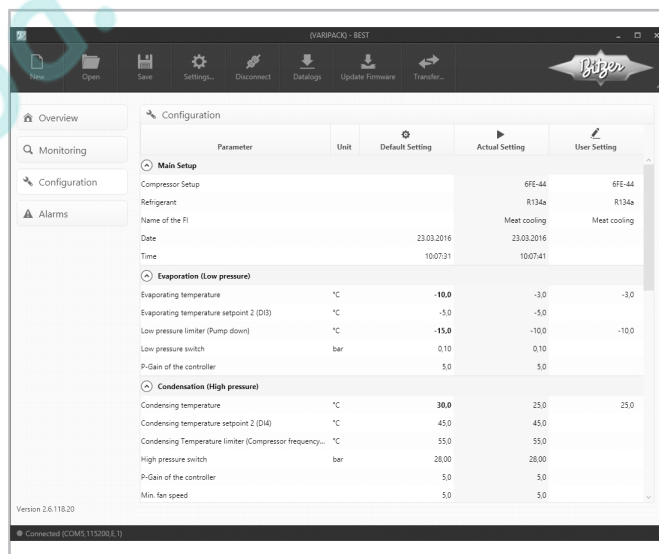

Fig. 22: VARIPACK configuration "Pressure control"
- Capacity control of the compressor depending on the evaporation pressure using the extension module for pressure control (option), see figure 22, page 67.